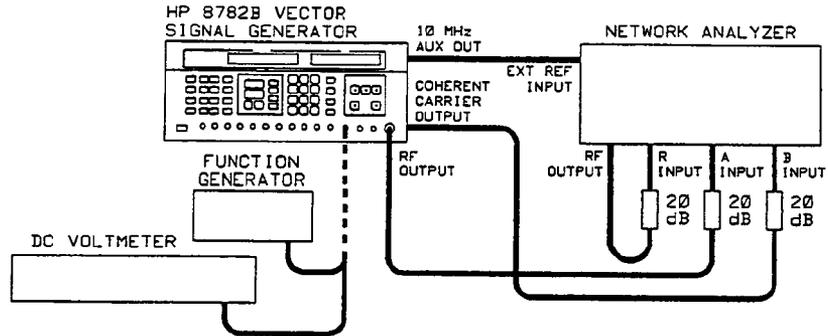

Figure 5-32. Scalar Modulation DC Accuracy Test Setup
1. Connect the equipment as shown in Figure 5-32. The generator 10 MHz auxiliary output must be connected to the network analyzer to provide a common time base for the measurements. The connection from the network analyzer RF source to the R input is only required for the HP 8753 A/B. This is required to phase lock the internal frequency sources. Make sure the function generator is disconnected from the HP 8782B. Connect the function generator to the voltmeter.